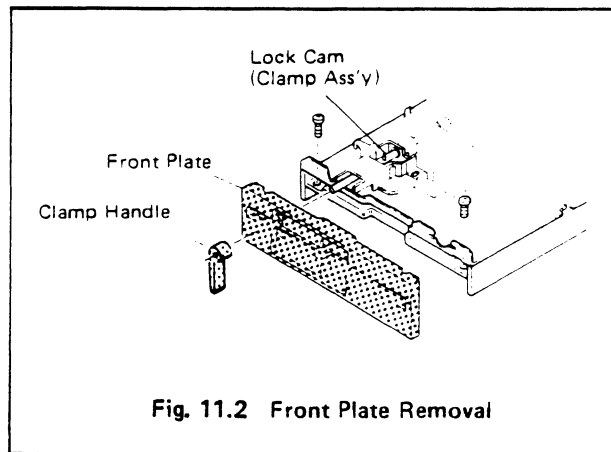

Fig. 11.2 Front Plate Removal
11.2 Front Plate Removal and Installation (See Fig.11.2)